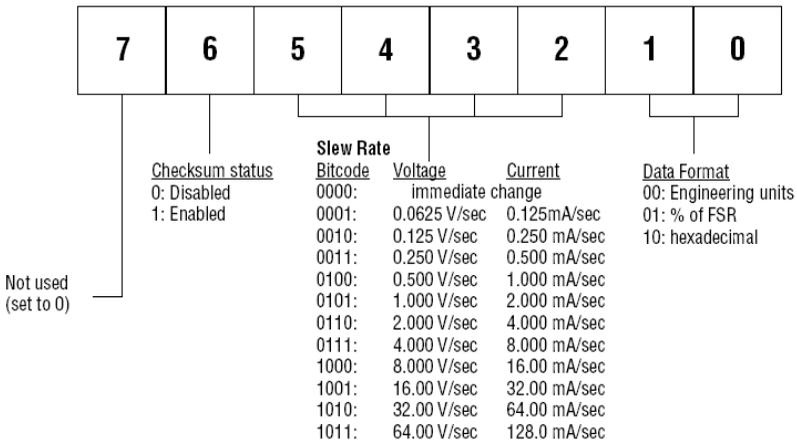

Figure 6-1 *Data format for FF (8-bit parameter)*
**FF** is a hexadecimal number that equals to 8-bit parameter representing the status of data format, slew rate, and checksum. The layout of the 8-bit parameter is shown in Figure 6-1. Bit 7 is not used and must be set to 0.